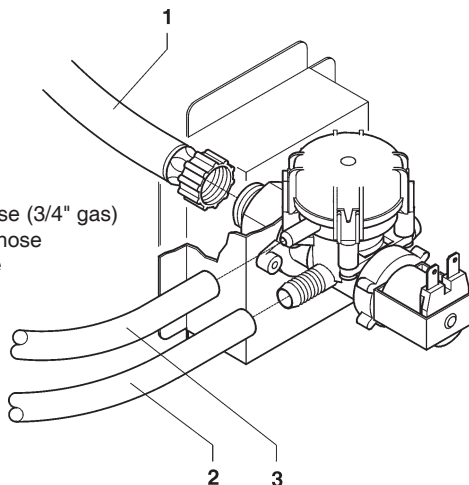

Fig. 14
Use a hose capable of withstanding the water mains pressure and suitable for use with foodstuff (min. inside diameter of 6 mm) to connect the water supply to the fitting (3/4" gas) of the water inlet solenoid valve (see Fig. 14).
The water inlet solenoid valve (see Fig. 14) is equipped with an overflow device which mechanically stops the water inlet if there is a malfunction in the solenoid valve or in the boiler water level control device.
- loosen the nut which secures the solenoid valve supply hose to relieve the water mains residual pressure and then tighten again (see Fig. 14);